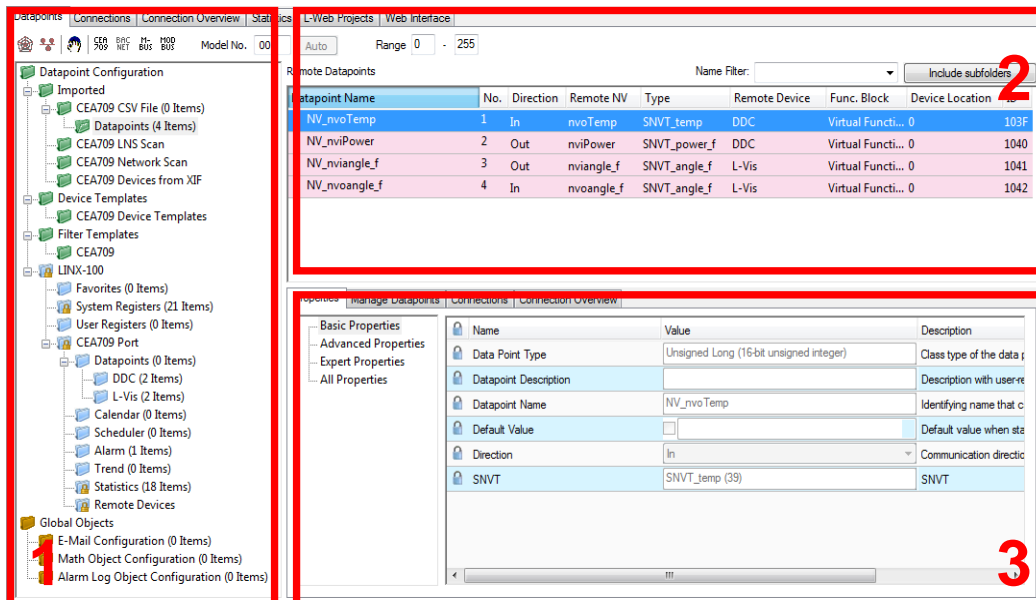

Figure 99: Data Point Manager Dialog.
The Configurator uses a central concept to manage data points. The data point manager is located on the **Datapoints** tab as shown in Figure 99. It is used to select, create, edit and delete data points. The dialog is divided into three sections:
- The folder list (number 1 in Figure 99),
- The data point list (number 2 in Figure 99),
- And a property view (number 3 in Figure 99).